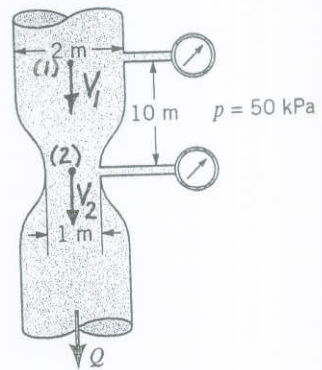

FIGURE P3.47
3.47 Water (assumed inviscid and incompressible) flows steadily in the vertical variable-area pipe shown in Fig. P3.47. Determine the flowrate if the pressure in each of the gages reads 50 kPa.